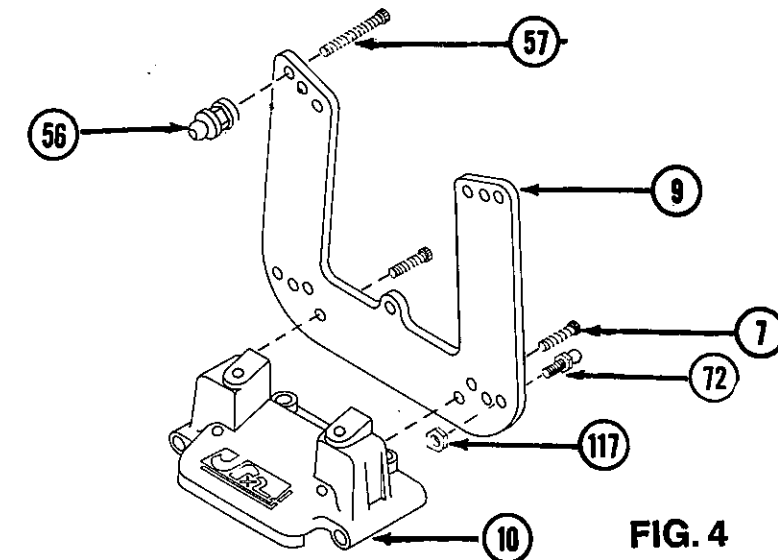

FIG. 4
5. Secure shock mounts (56) to front shock tower (9) in top outside holes using two 4-40 x 7/8" socket head screws (57). Fig. 4.
6. Affix 3/16" studded ball joints (72) to opposite side of front shock tower (9) in outside holes and secure with 4-40 nuts (117). Fig. 4.
7. Secure front shock tower (9) to front bulkhead (10) using two 4-40 x 3/8" socket head screws (7). Fig. 4.